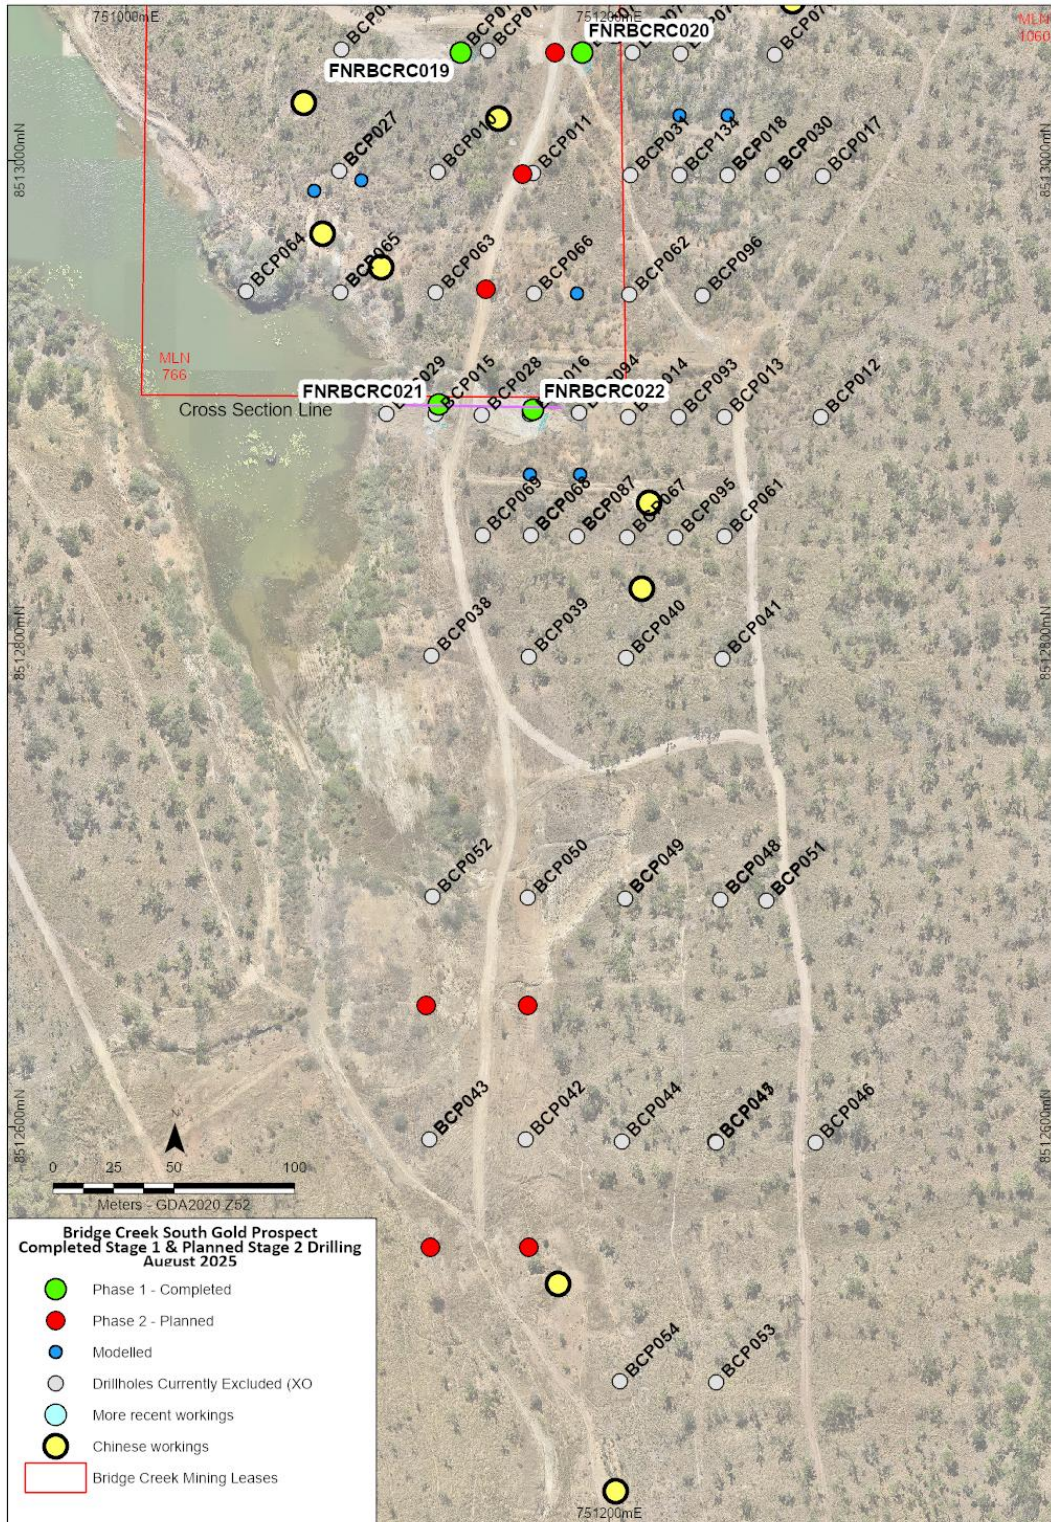

FIGURE 3: BRIDGE CREEK SOUTH DRILL HOLE FNRBCRC022 NORTH OF WORKINGS
- FNR notes from the phase one drilling⁽¹⁾, hole FNRBCRC022 (3m @ 36.82g/t Au) was directly northwest of what looks like an old Chinese working (Refer to *Figure 3*).